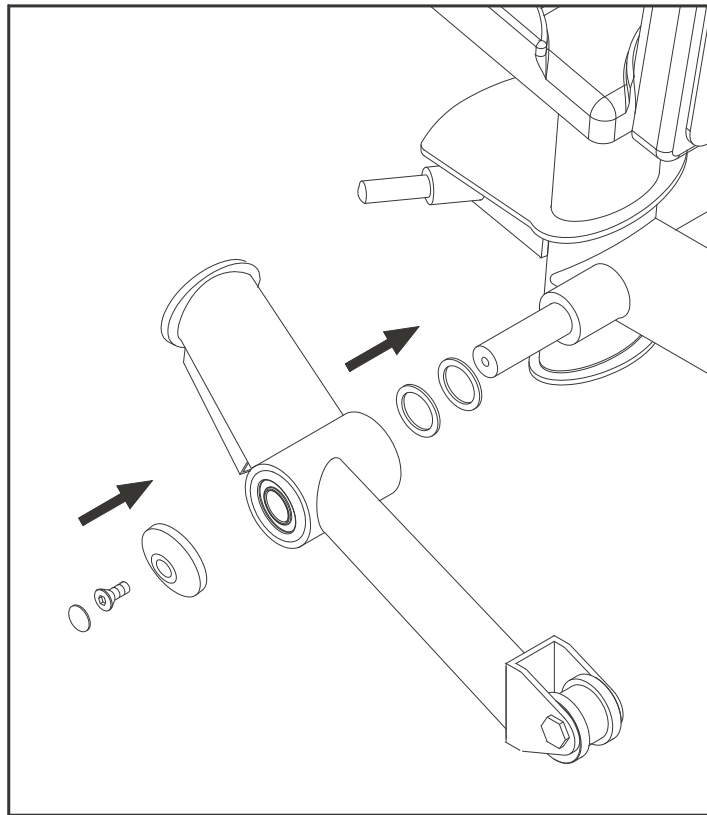

Fig.1
1. Tighten the pedal pushing rod with screws as shown in Fig.1.